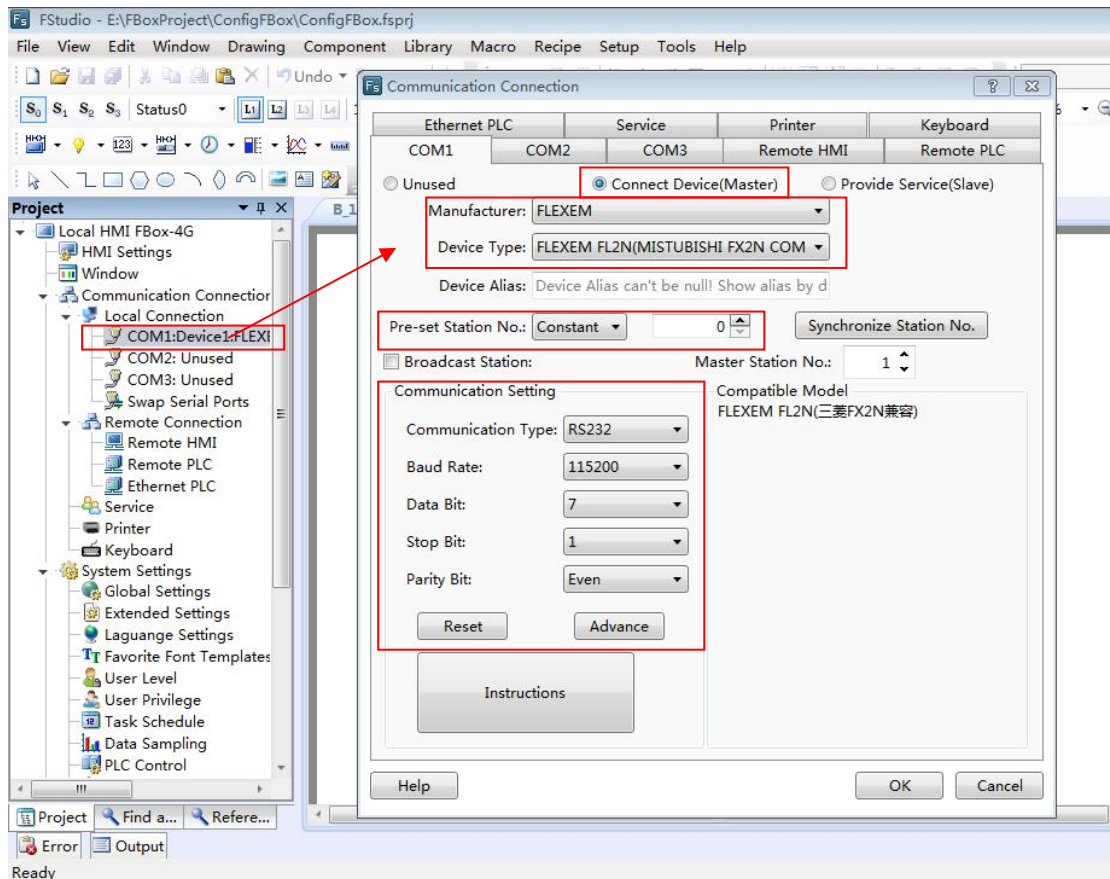

Fig. 4.4-1 Serial Connection configuration by FStudio
(1) Create or open an FBox project by using FStudio software. Double click the COM interface item (COM1, COM2 or COM3) which is specified to connect the PLC and the FBox device. This item is under the "Local Connection" folder in the project tree. The "Communication Connection" dialog will pop up and the corresponding COM subtab page will be displayed, as shown in Fig. 4.4-1.